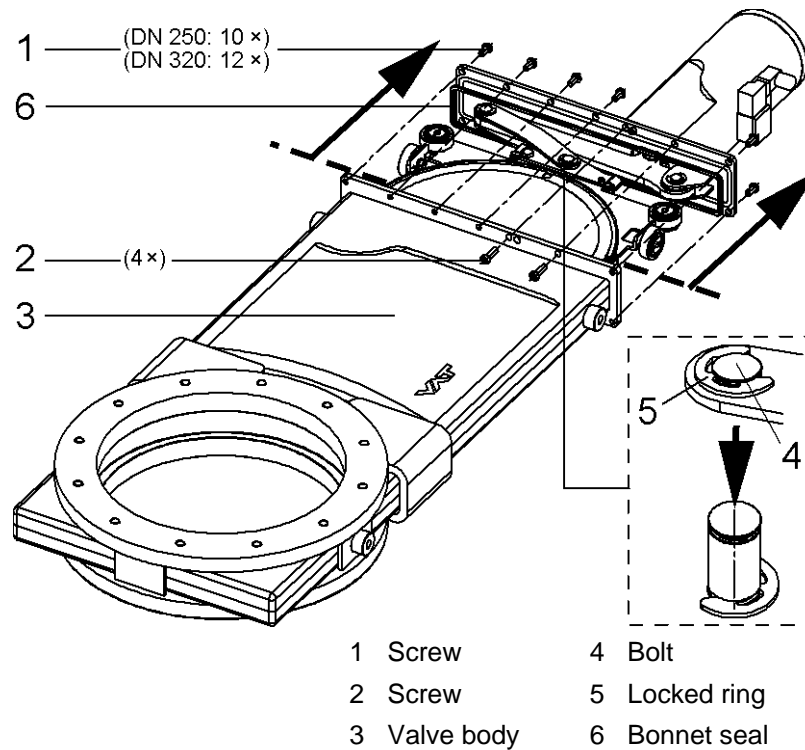

Figure 6-1
5. Remove screws (1) and (2) according to «Figure 6-1» on page 18.
6. Withdraw actuator / mechanism unit carefully from body without touching the body wall; see «Figure 6-1» on page 18.
7. Remove locked ring (5) according to «Figure 6-1» on page 18.
8. Withdraw bolt (4) by pulling it downwards according to «Figure 6-1» on page 18.
11. Mount bolt (4) according to «Figure 6-1».
12. Mount locked ring (5) according to «Figure 6-1».
16. Mount screws (1) and screws (2) according to «Figure 6-1».